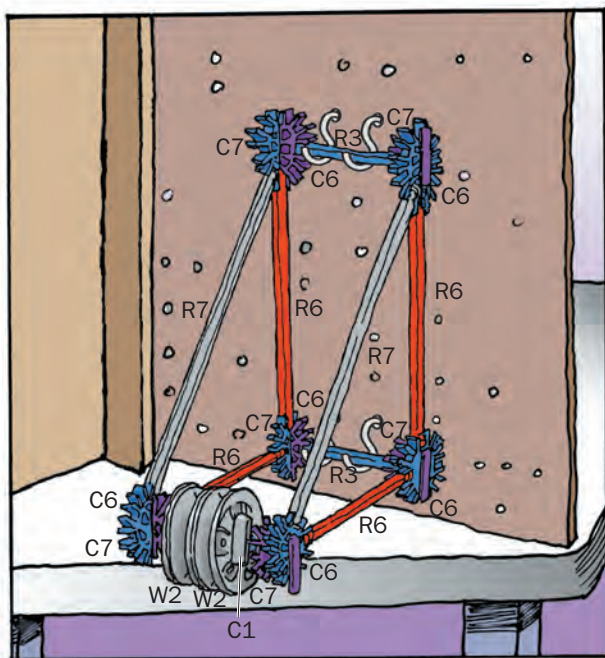

Figure 12.1 Fixed pulley assembly
1. In this lesson, you will make a variety of pulley assemblies using K'NEX® parts. First, you need to construct the two pulley assemblies shown in Figures 12.1 and 12.2. Your teacher has a model of each assembly for you to study.